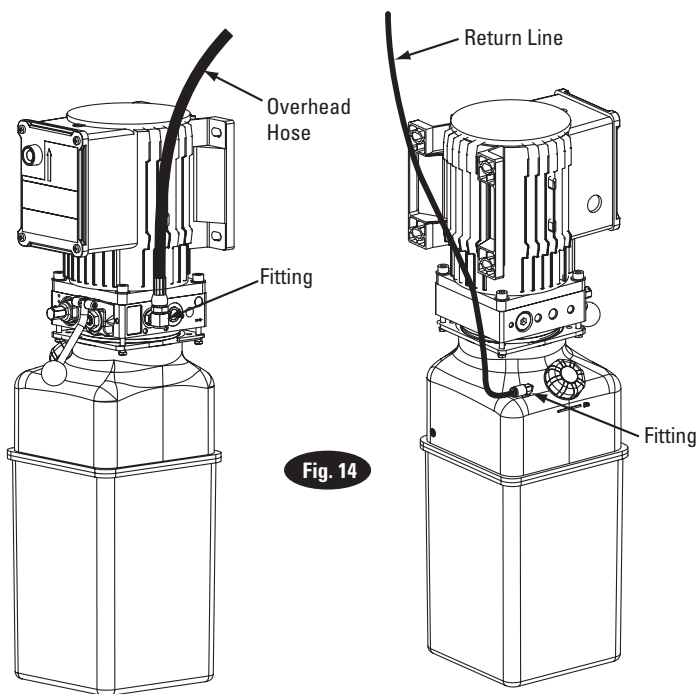

Fig. 14
- 13. Hoses:** Clean adapters and hose. Inspect all threads for damage and hose ends to be sure they are crimped, Fig. 14. Install hose and hose clamps, Fig. 15a, Fig. 15b, Fig. 15c, & Fig. 19a.